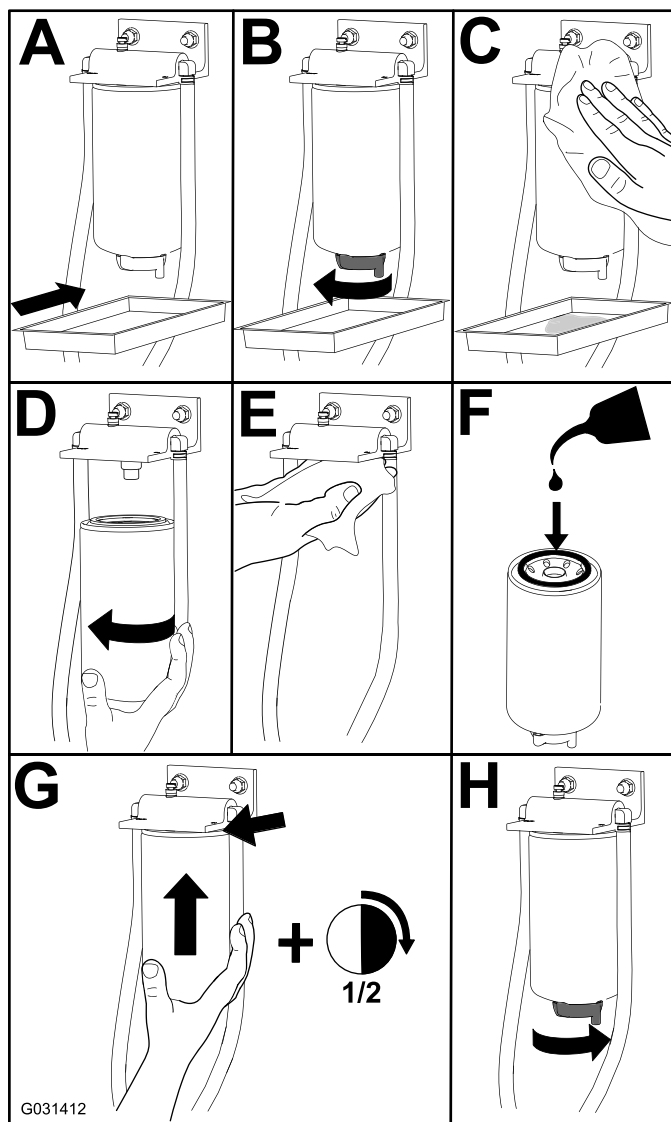

Figure 84
1. Replace the filter as shown in Figure 84.